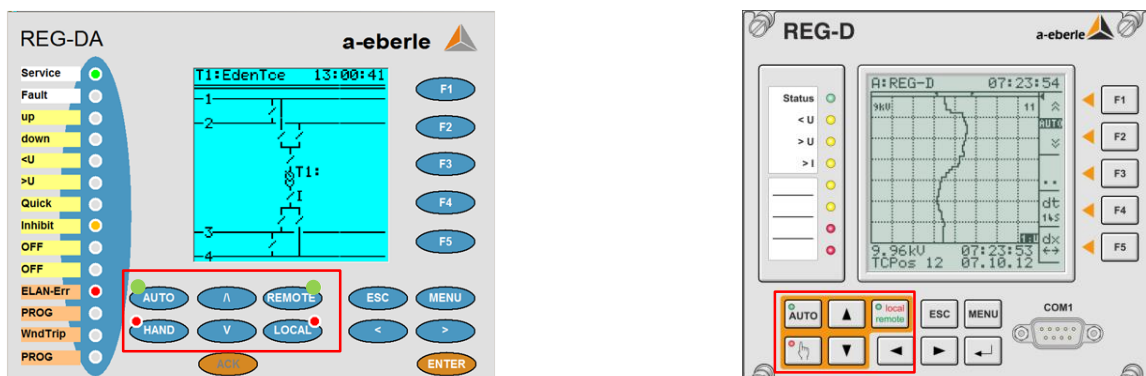

Figure 1. Front panels regulators showing Auto/Hand and Remote/Local mode selection keys as well as Raise () and Lower () pushbuttons.
- Raise/Lower keys on the front panel (figure 1)
- front panel Auto/Hand keys (figure 1)